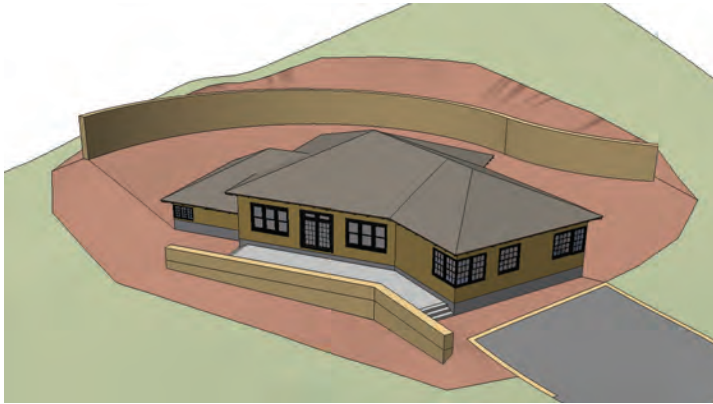

Fig. 15-29: The proposed grades are added using From Contours.
7. Add the proposed grades using From Contours (Fig. 15-29).